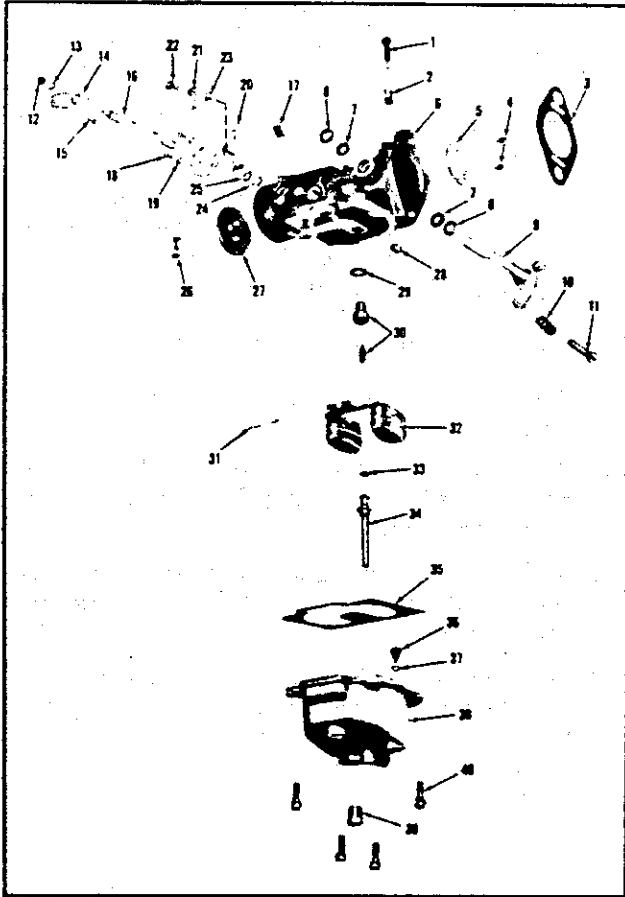

Figure 5
B. DISASSEMBLED, Refer to Fig. 5
The exploded view, Fig. 5, will help you to identify the various component parts and show their relation to assembly. Use the exploded view with the identifying part numbers to identify and locate parts when performing disassembly and re-assembly operations.